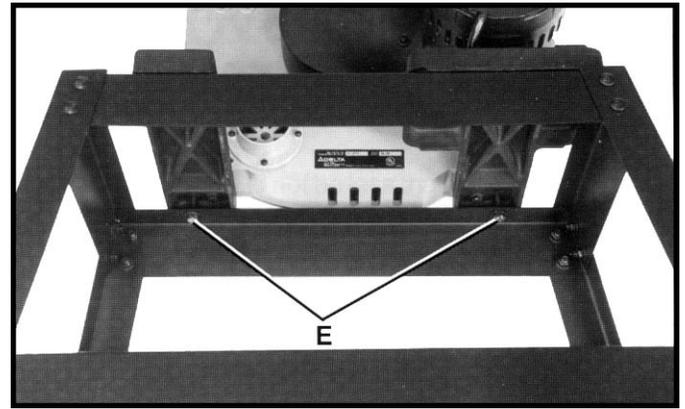

Fig. 6
3. Using the two 45mm (approximately 1-3/4" long) screws (E) Fig. 6, and flat washers supplied, fasten the band saw to the stand by threading the two screws (E) into the tapped holes in bottom of saw as shown.